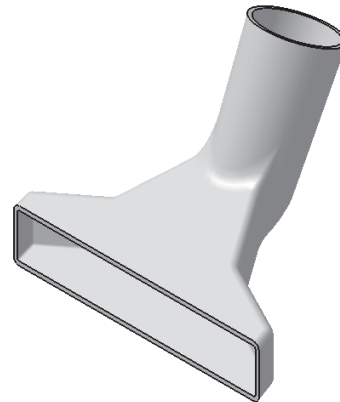

**Figure 5-84** Model after creating the second fillet
5. Set the value of the **Radius** spinner to **3** and choose the **OK** button from the **Edge Fillet Definition** dialog box. Cancel this dialog box when it is displayed again. The model, after applying the fillet to the second set of edges, is shown in Figure 5-84.